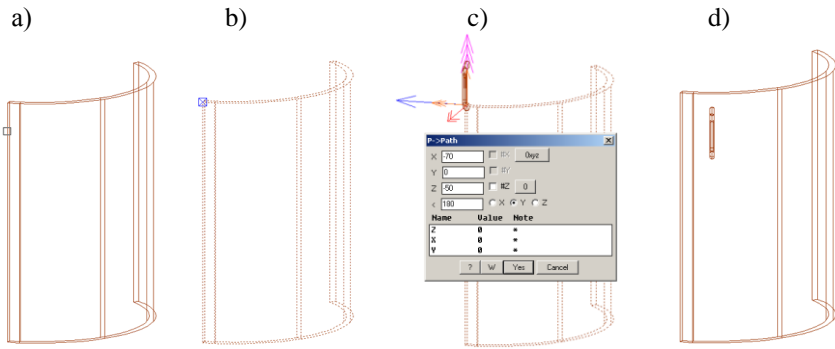

Fig. 3.39 Block installation by “On Bent Sheet” method.
On Bent sheet - point of bent sheet: Specify a Bent Sheet point, see fig. 3.39 a).
*change point #N / *Apply selected #G:* Confirm the base point by pressing **Enter** or redefine it, see fig. 3.39 b).
Enter in the dialog window block reference parameters, see fig. 3.39 c).